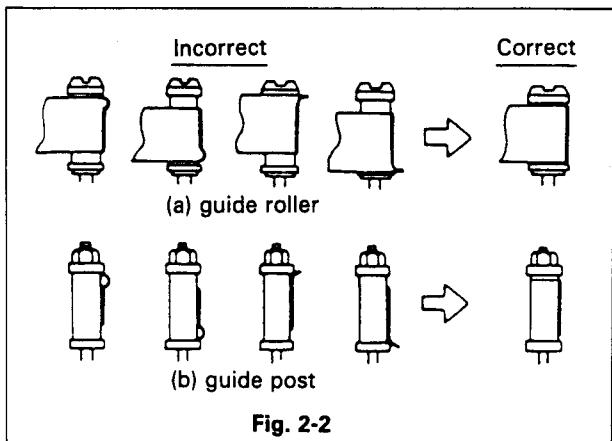

Fig. 2-2
- (1) A cassette tape (T-120) is used.
- (2) Clean surfaces of tape transport mechanism (tape guide, tape running surface of the drum, capstan shaft, pinch roller, ACE, FE heads, etc.) with a cleaning cloth soaked in cleaning solution (isopropyl alcohol).
- (3) Load a cassette tape into the unit to check following points.
- (4) Repeat the PLAY and the STOP mode of operations several times and make sure the unit works as expected without any abnormality.
- (5) Operate the unit in the PLAY, CUE, and REV mode and observe running status of the tape at the S guide roller, S guide post, T guide roller, T guide post, reverse pin whether the tape runs smoothly without wrinkling. (Figure 2-2) If tape wrinkling is found, adjust as shown in item 2-3.
Perform the tape transport system adjustment only when abnormality is found when the tape is running in Figure 2-2.